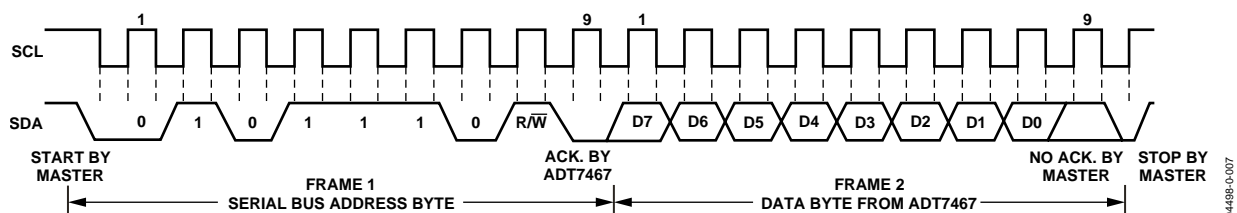

Figure 18. Reading Data from a Previously Selected Register
A read operation is then performed consisting of the serial bus address, R/W bit set to 1, followed by the data byte read from the data register. This is shown in Figure 18.
- If the address pointer register is known to be already at the desired address, data can be read from the corresponding data register without first writing to the address pointer register, as shown in Figure 18.